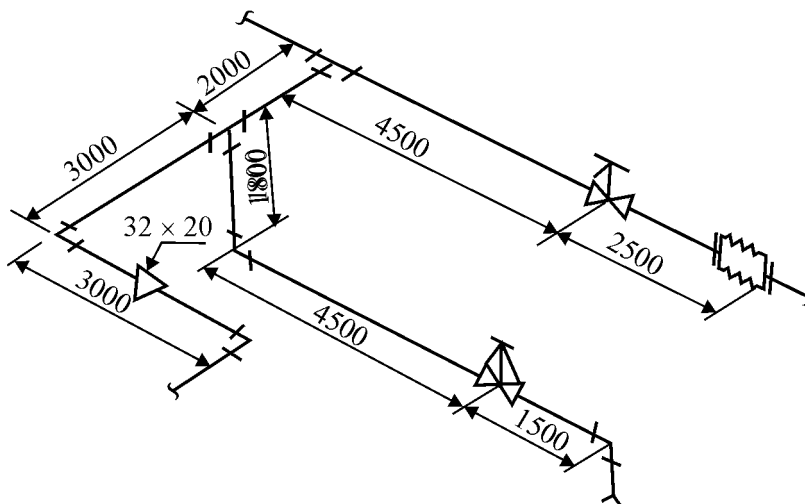

Fig. No. 1
- (c) Draw a single line developed orthographic view of piping system shown in Figure No. 1.